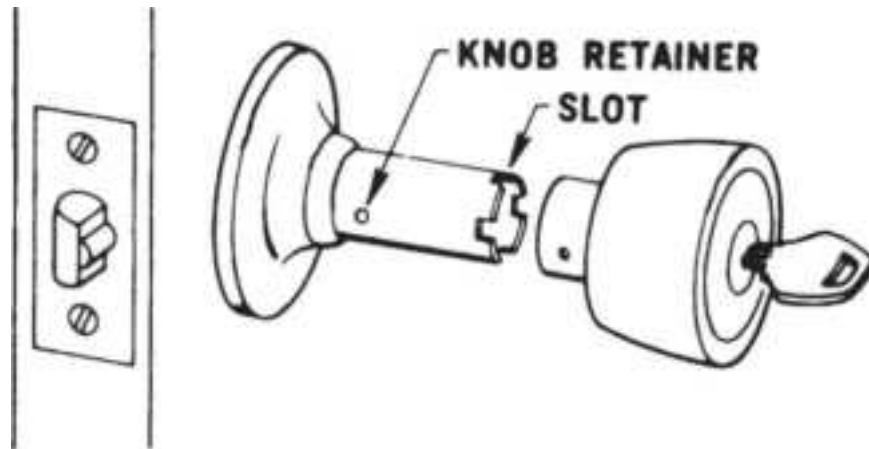

**Figure 13.19** Pull knob off spindle.
3. Pull the knob off the spindle (Fig. 13.19 ). Rotate the knob so the bitting on the key will be *up* .